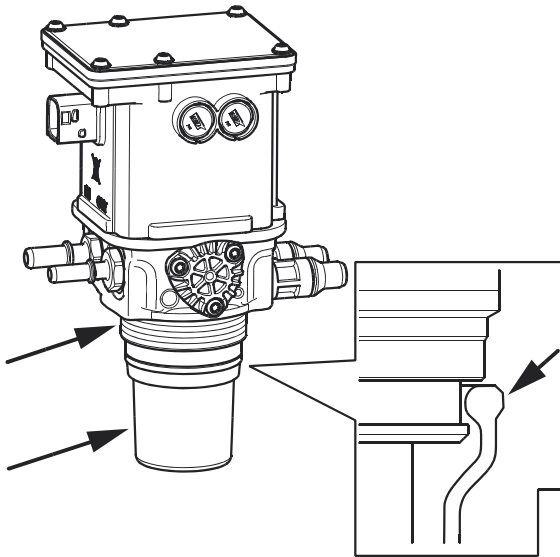

Figure 18 Lubricate Diaphragm and Threads
7. Lubricate the sealing diaphragm and threads with the accompanying spray. See Figure 18.